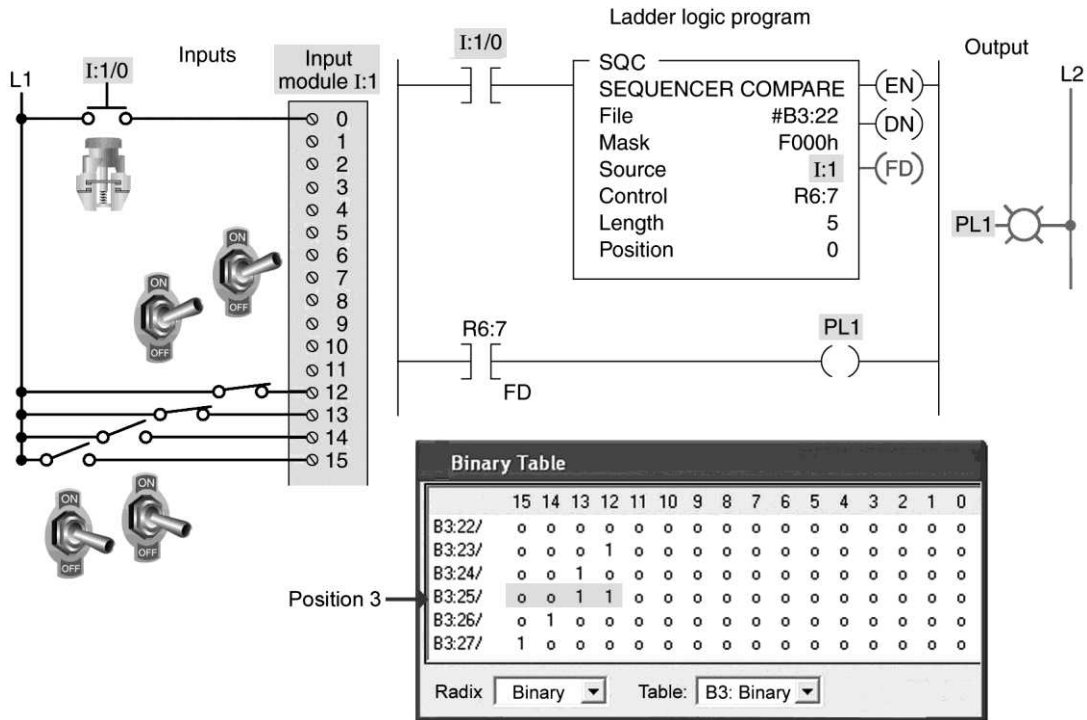

Figure 12-25 Sequencer input (SQC) program for assignment 8.
8) The sequencer compare (SQC) program of Figure 12-25 is described in the text. Prepare an I/O connection diagram and ladder logic program that will simulate its operation. Use addresses that apply to your PLC installation. Enter the program into the PLC, and verify its operation.